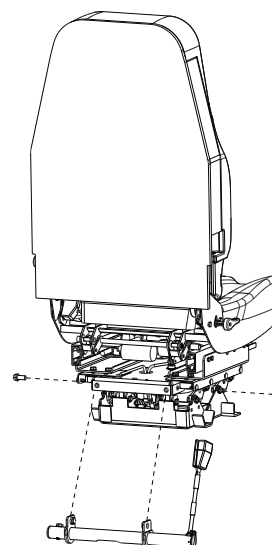

Figure 4
2. Position the ICP bar to the rear of the seat mounting location. **See Figure 4.**